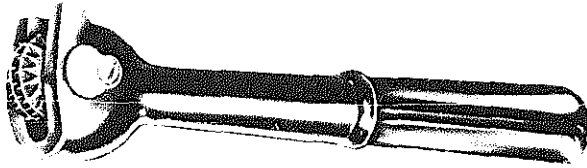

Fig. 8-54 Grinding wheel dresser (Huntington Dresser).
*Dressing* is the process of restoring the sharpness of the grinding wheel by breaking away the dulled abrasive crystals or by removing the glazed or loaded surface of the wheel. After dressing, the wheel has sharp cutting edges of the abrasive grains. The tools used for dressing are made in a variety of types. One of the most common types is shown in figure 8-54.